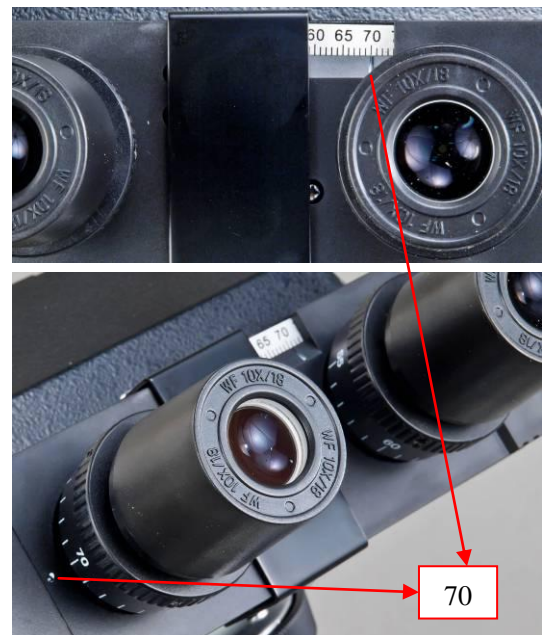

Fig. 4
- 2) Rotate the diopter ring on the right eyepiece tube until its numerical value is the same as your interpupillary distance, for example, 70 in the right figure (See **Fig. 4**).